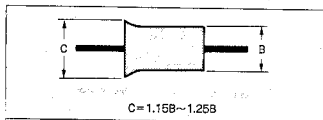

Fig. 7-72.
- 5) Raise the entrance side waveform slightly by rotating No.2 guide. (See Fig. 7-72.)